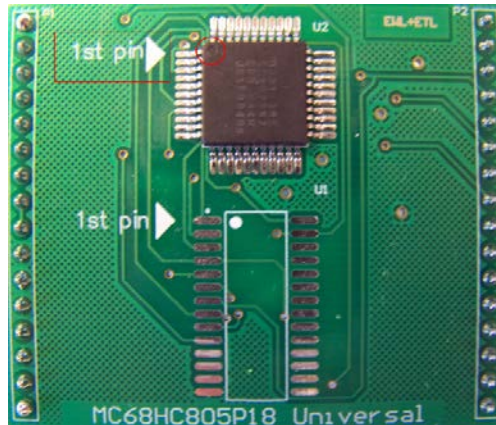

Figure 18 MC68HC805P18 Universal assembled adapter board
- Solder MC68HC805P18 MCU on the adapter concerning 1-st pin location (Figure 18).